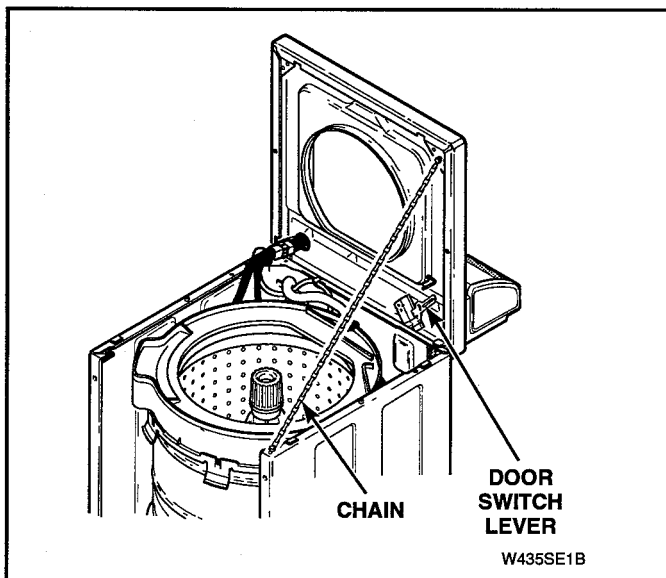

Figure 5-25
**NOTE:** Cabinet top is self-supporting, however, a small chain may be used for additional support. See Figure 5-25.
**NOTE:** Cabinet top is self supporting, however, a small chain may be used for additional support. See Figure 5-25.